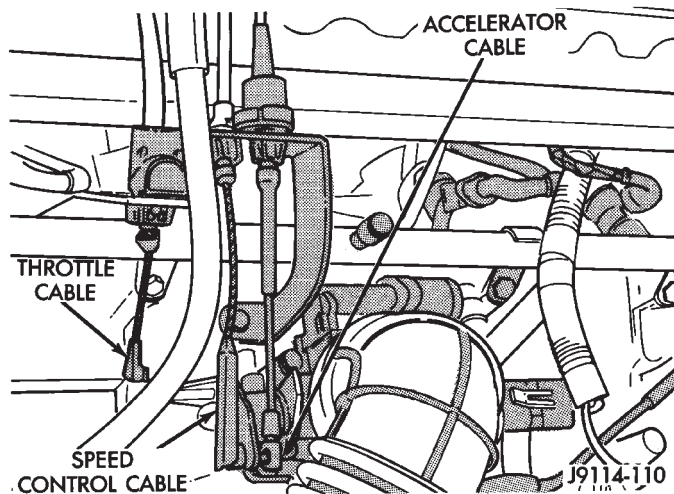

Fig. 15 Cables at Throttle Body
- (1) Disconnect the negative battery cable.
- (2) Disconnect air cleaner hose from throttle body.
- (3) Disconnect idle air control motor and throttle position sensor wire connectors.
- (4) Disconnect accelerator cable, throttle cable (automatic transmission) and speed control cable (if equipped) from throttle arm (Fig. 15).